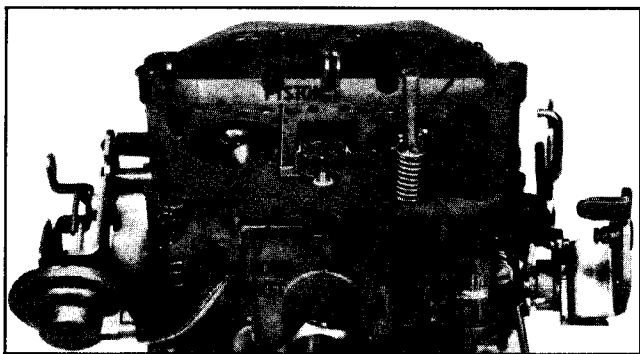

Figure 15-Float Bowl Assembly
1. Remove pump plunger from pump well. See Figure 15.